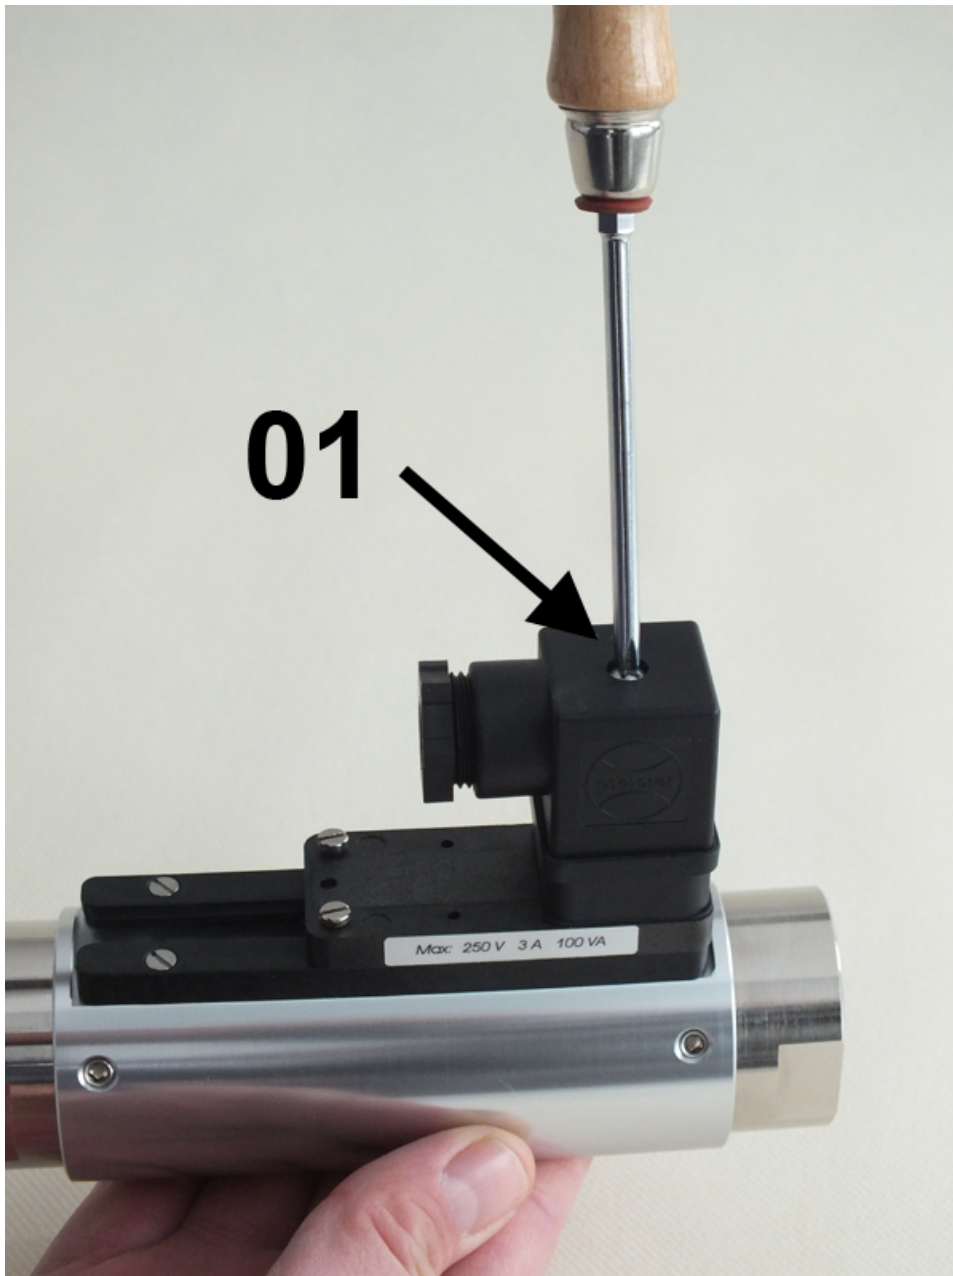

Fig. 27: Detach socket
- 1.** Release the fixing screw (*Fig. 27/1*) from the socket.
9. → Plug the socket onto the connection plug and tighten the fixing screw. (Fig. 27/1)